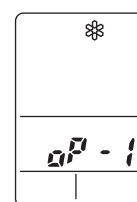

Fig. 59b
- d) ※ appears and “oP-1” blinks in the remote controller clock display area. (Fig. 59b)